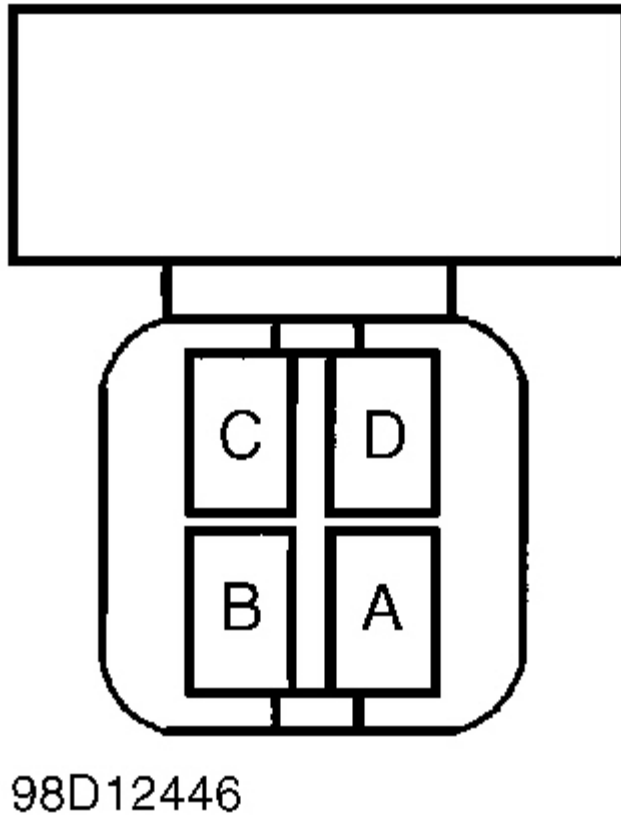

Fig. 2: Identifying Mirror Harness Connector C2
3. Turn ignition switch to OFF position. Disconnect right mirror 4-pin connector C2. Turn ignition switch to RUN position. Using DVOM, check voltage between right mirror harness connector C2, terminal "A" (Gray wire) and ground while operating right mirror. See **Fig. 2** . If 4.0-5.5 volts exists, go to next step. If 4.0-5.5 volts does not exist, go to step 6).